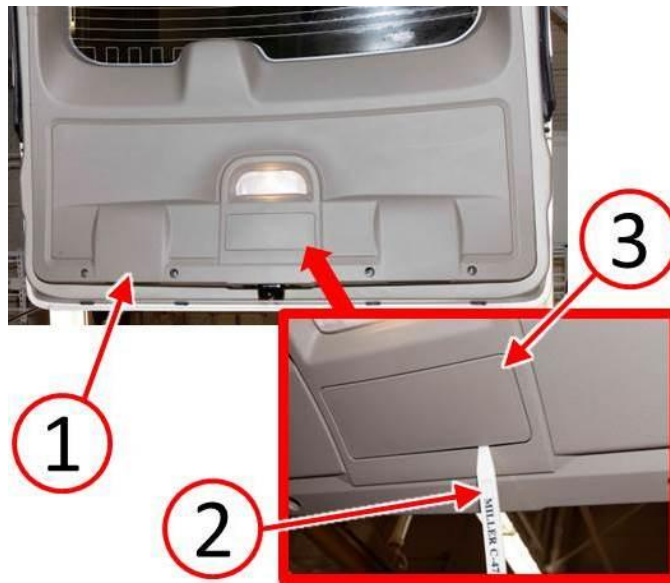

Fig. 2 Remove Liftgate Access Panel
4. Open the liftgate (1) (Fig. 2).
6. Using trim stick or equivalent (2), remove the trim panel access panel (3) (Fig. 2).